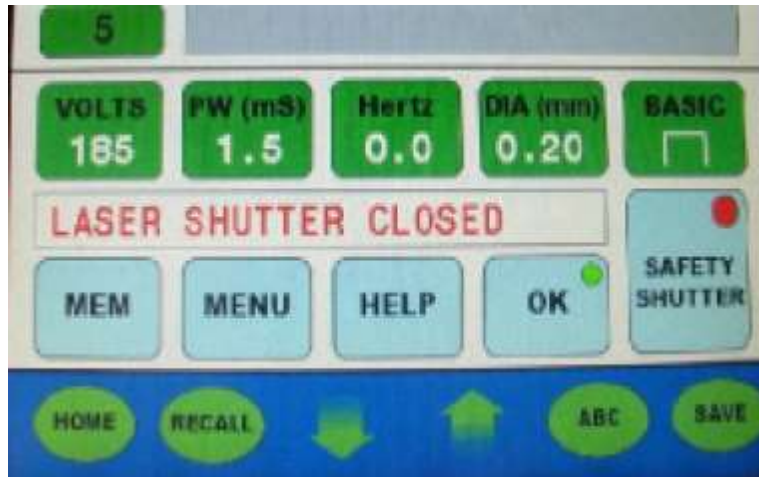

Figure 1
5. Press the **menu button** on the password screen to enter the password and return to the main screen (**figure 1**) password protection is disabled.